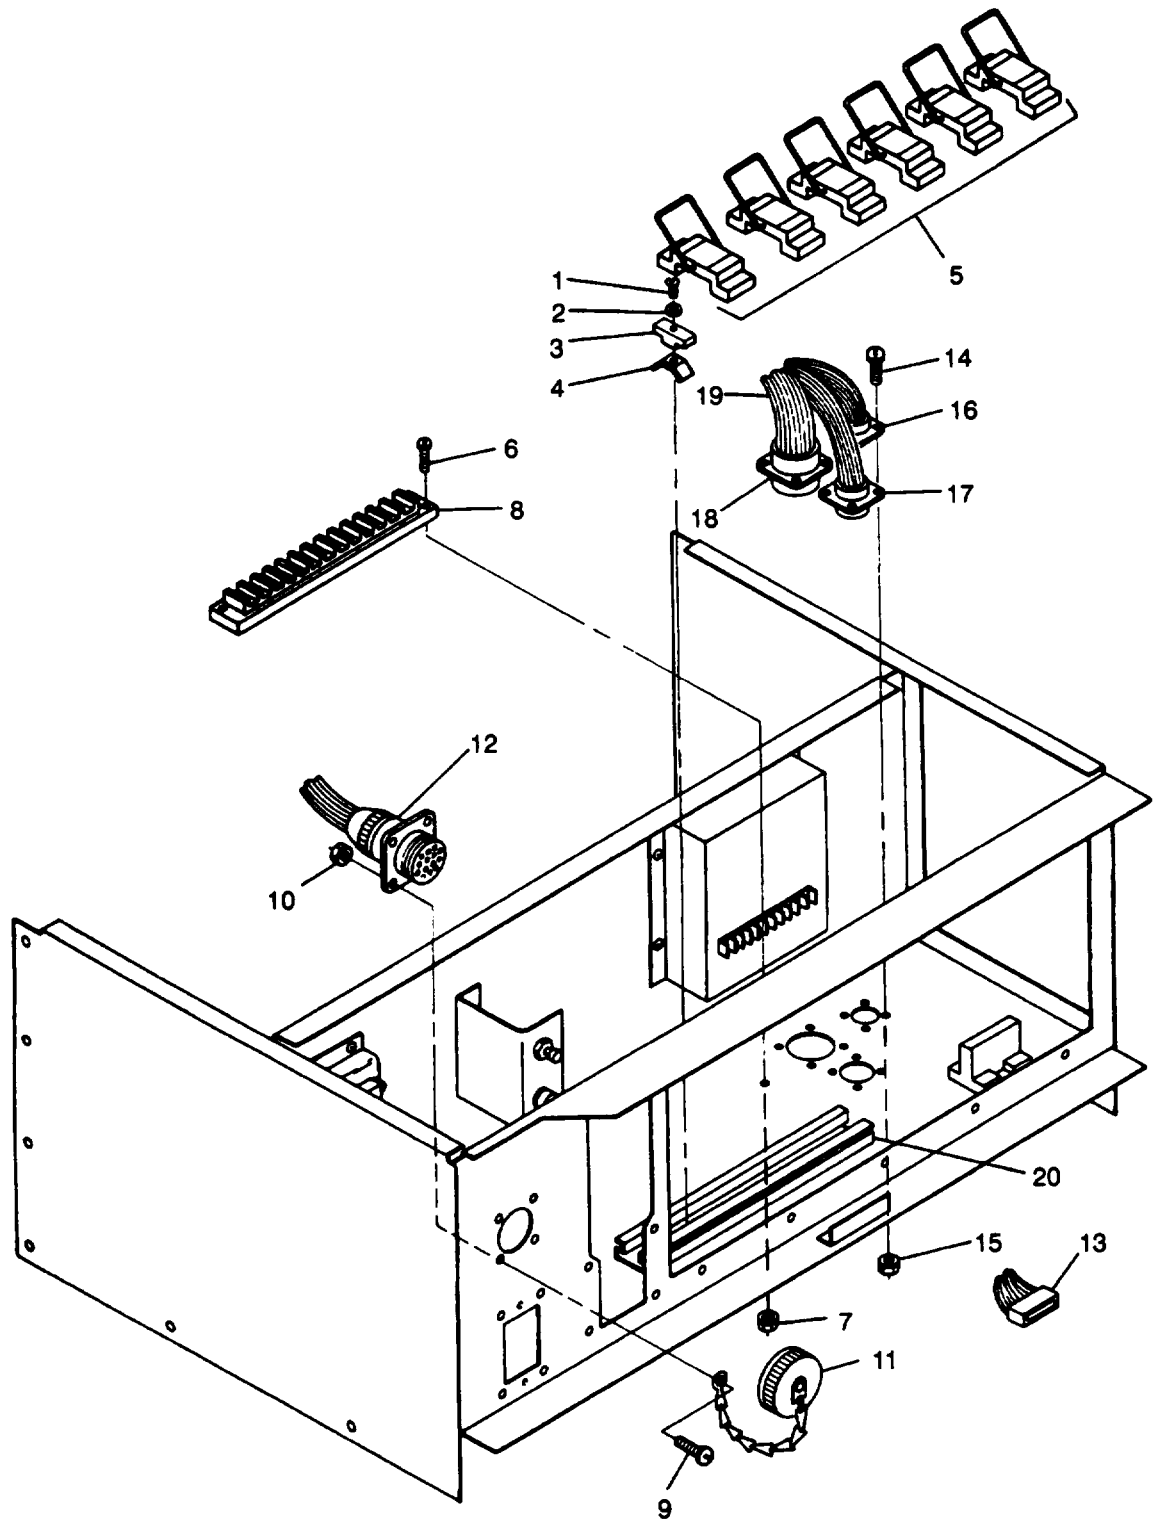

Figure 4-10. Control Box Harness
- g. Remove screws (1, Figure 4-10), washers (2), insulators (3), clips (4), and sockets (5) from track (20).
- h. Remove screws (6) and nuts (7) to free terminal board (8).
- i. Remove screws (9), nuts (10), and cap (11) to free diagnostic connector (12).
- k. Disconnect electrical connector (13, Figure 4-10) to malfunction indicator (12, Figure 2-11) panel.
- m. Remove screws (14, Figure 4-10) and nuts (15) to free harness connectors (16), (17), and (18).
- n. Remove harness assembly (19) from control box.
- a. Position control box wiring harness assembly (19, Figure 4-10) in control box.
- b. Secure harness connectors (16), (17), and (18) to control box with screws (14) and nuts (15).
- e. Install diagnostic connector (12, Figure 4-10) and cap (11) with screws (9) and nuts (10).
- g. Secure terminal board (8, Figure 4-10) to control box with screws (6) and nuts (7).
- h. Position sockets (5) on track (20) as tagged on removal.
- i. Secure sockets (5) with clips (4), insulators (3), washers (2), screws (1), and remove tags.